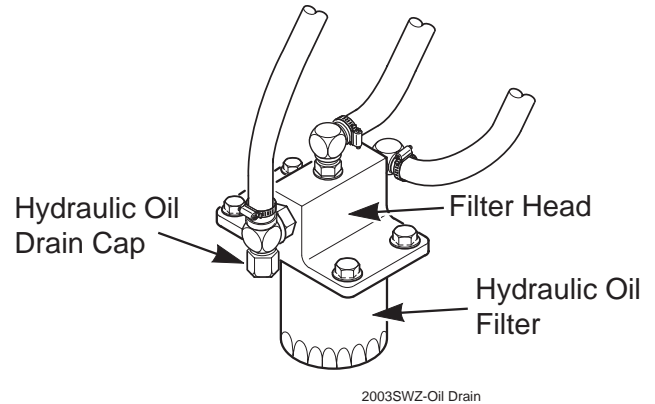

Figure 7-2. Hydraulic Oil Filter and Drain Plug
2. Place a suitable container under the hydraulic oil drain. Remove the fill cap from the reservoir. Remove the drain cap from the tee fitting located on the hydraulic system filter head. See Figure 7-2. Allow the fluid to drain into the container and properly discard it.
1. Remove the oil filter element and properly discard it. See Figure 7-2. Fill the new filter with clean oil and install the filter. Hand tighten only.